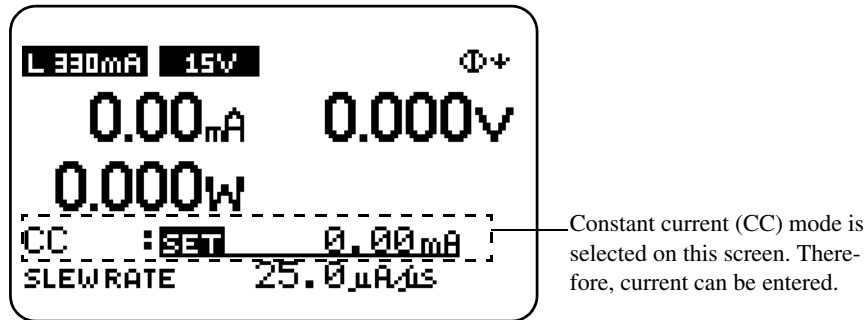

Fig. 2-4 Basic setting entry condition
5. Check whether the display appears as shown in Fig. 2-4.